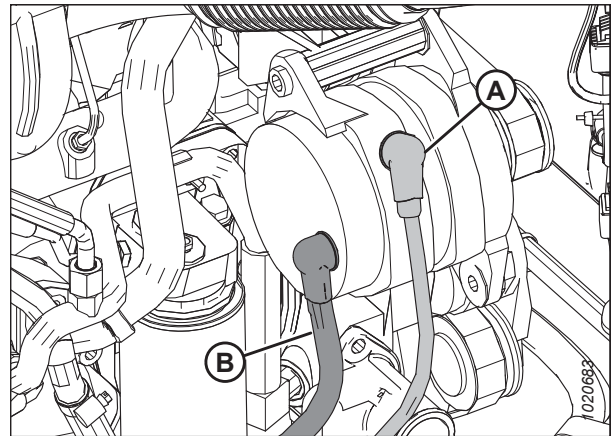

Figure 5.32: Alternator
- Do **NOT** short across battery or alternator terminals or allow battery positive (+) cable (B) or alternator wire to become grounded.
- If wires are disconnected from the alternator, refer to Figure 5.32, page 361 to ensure proper connection.